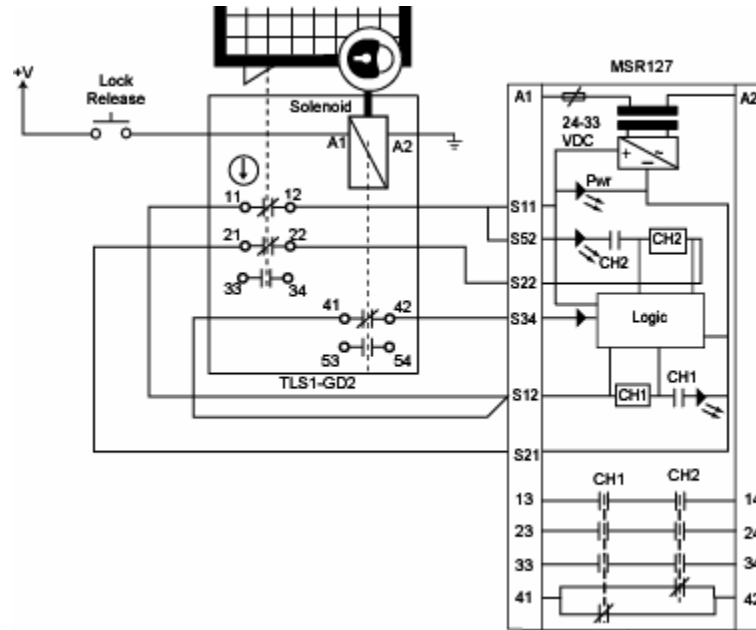

Figure 10. One TLS1-GD2
- i. The input circuit arrangement shown in Figures 10 meets the requirements of EN954-1 Category 4.